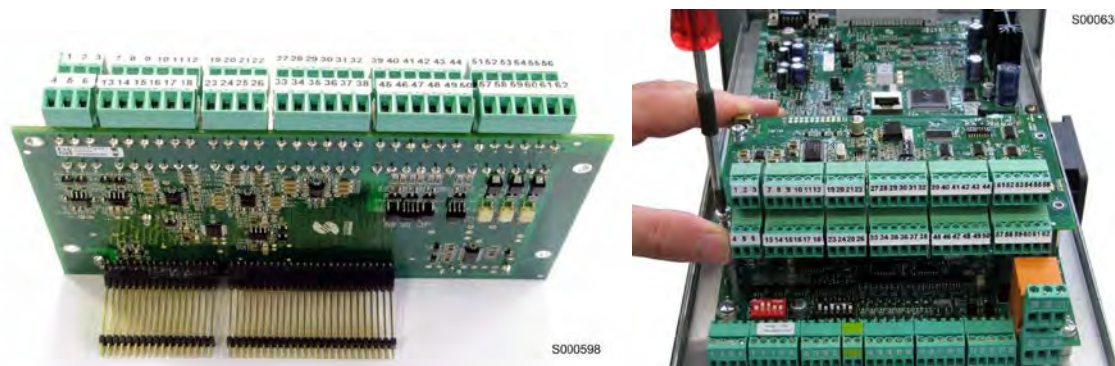

Figure 193: Fitting the strips inside ES847 board and fixing the board on slot C
3. Insert the two contact strips supplied in the bottom part of ES847 board; make sure that each contact enters its slot in the connector. Insert ES847 board over the control board of the PENTA inverter; make sure that each contact enters its slot in the signal connector. Use the screws supplied to fasten board ES847 to the fixing spacers (Figure 193).